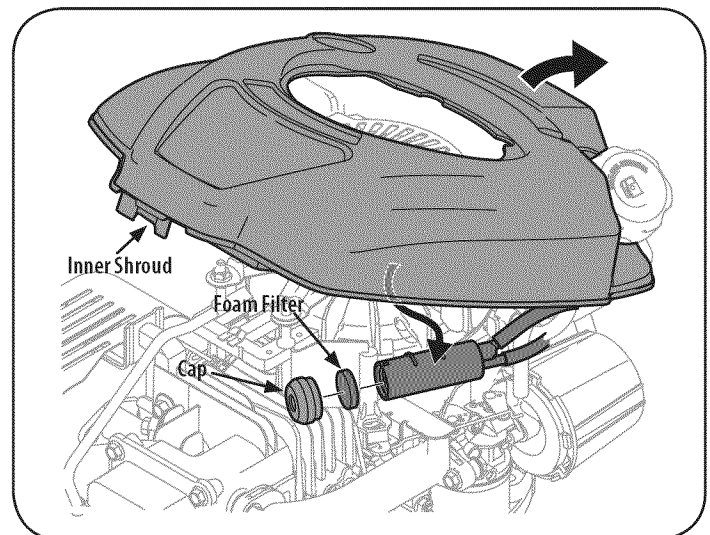

Figure 20
2. Lift up inner engine shroud and carefully pull out carbon canister filter assembly from under shroud as shown in Figure 20.
3. Remove cap from end of canister and pull out round foam filter from inside the assembly. See Figure 20. Clean element or replace when damaged.